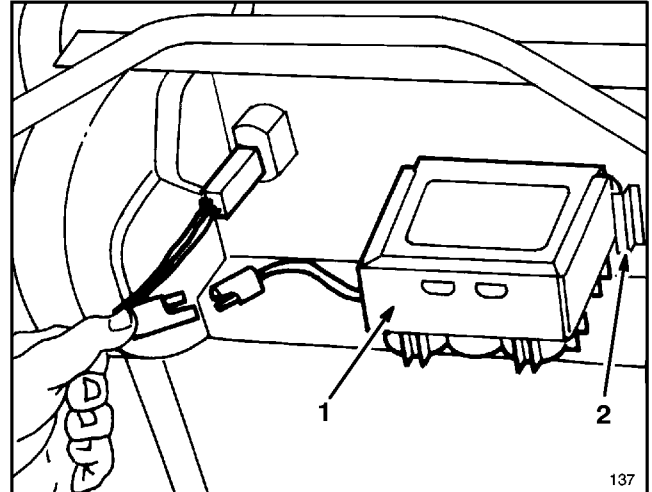

Figure 5
1. Refer to Charging Battery, page 17. Slide battery, decal side up, between mounting tabs on back of control panel and connect wires (Fig. 5). Insert key into switch when ready to start engine.